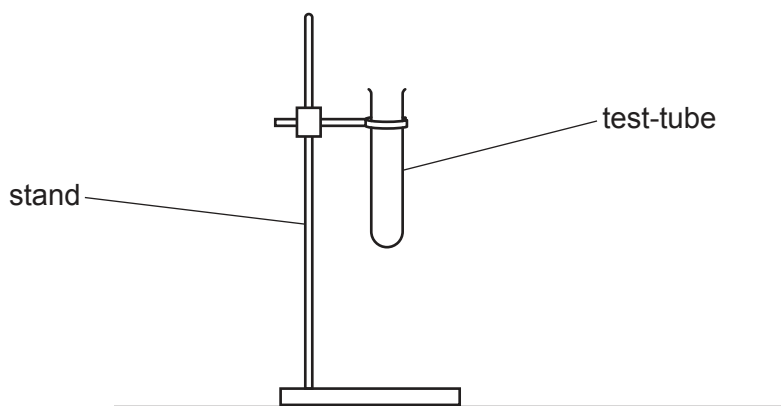

Fig. 2.1
- 1 A boiling tube 25 mm × 150 mm is suitable. The test-tube (or boiling tube) should be set up for candidates so that it is clamped to the stand as shown in Fig. 2.1. The candidate should be able to move the clamp holding the test-tube up and down the stand.
Remove the thermometer from the test-tube. Remove the beaker from the stand and empty the water from the beaker and the test-tube. Restore the apparatus to the set-up shown in Fig. 2.1. Refresh the warm and cold water in the labelled containers.